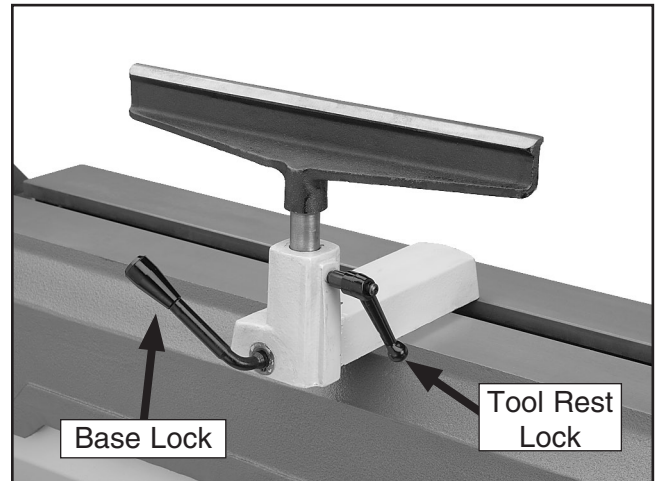

Figure 14. Tool rest controls.
1. Loosen the base lock and move the tool rest to the desired position (**Figure 14**).